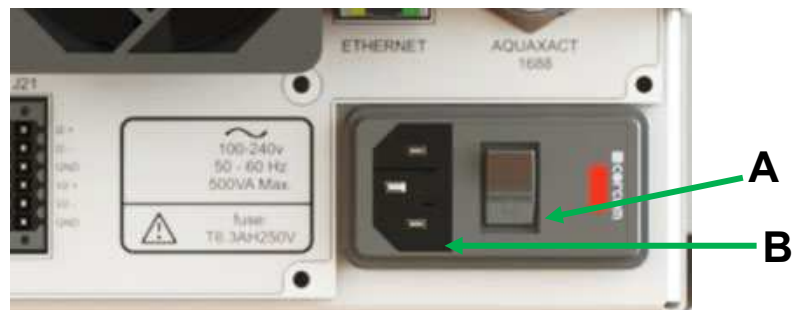

Figure 4-3: Power switch (A) and electrical supply socket (B) on rear of analyzer
1. Turn the Power Switch on the back of the unit to OFF: press the “O” on the On/Off switch shown in Figure 4-3 A.
2. Fit the IEC plug on the end of the electrical supply cable provided to the electrical supply socket on the rear of the analyzer (Figure 4-3 B).